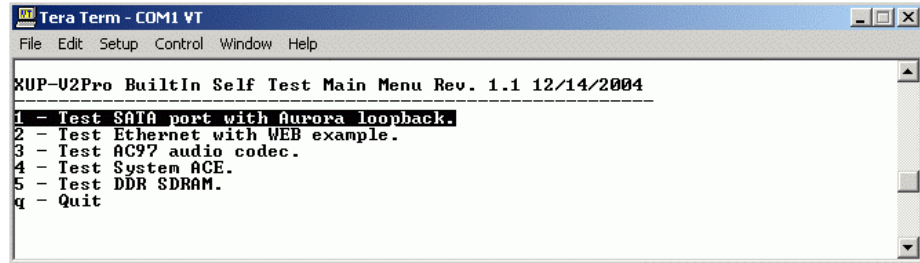

Figure D-5: Selecting the SATA Port Tests
- The user is prompted to select which loop to test (Figure D-5).